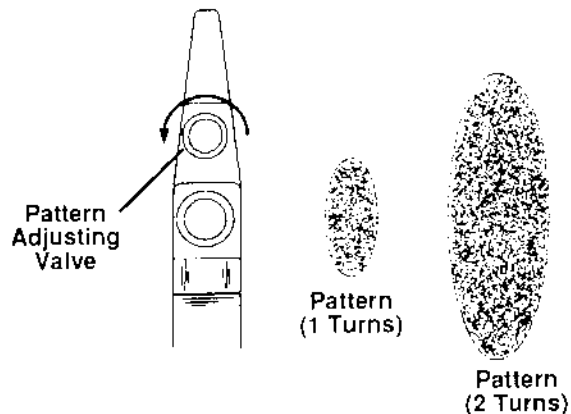

Figure 6. Fan Pattern
2. Opening the pattern adjusting valve (turn counter clockwise) produces an increasingly wider and flatter fan pattern (see figure 6).